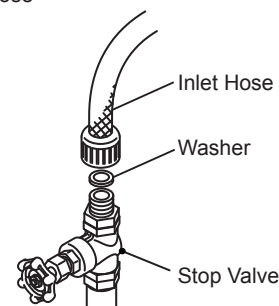

Fig. 4
1) Attach the free end of inlet hose to the stop valve (Fig. 4), noting washer is correctly positioned. Hand tighten sufficiently to provide leak free joint. It is a wise precaution to have the stop valve within easy reach.
- 4) Close the potable water supply line stop valve. See Fig. 4.